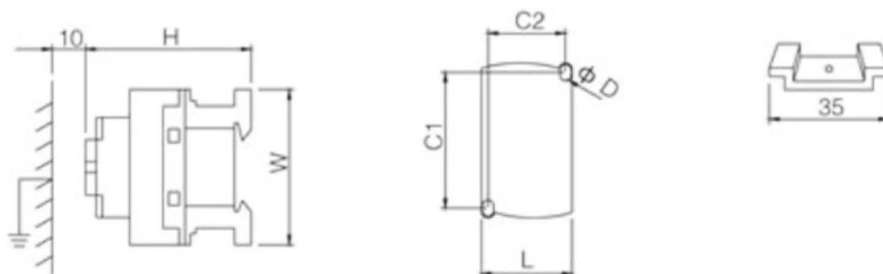

Fig 1 CJX2-D09~38
6.1 Overall dimensions and installation dimensions to see fig 1~6 and table 3~6